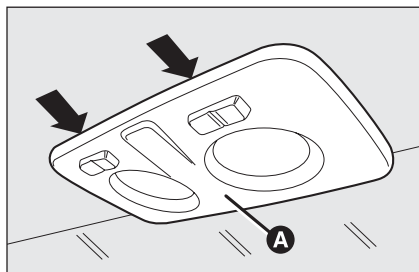
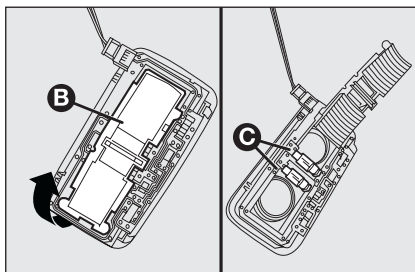

fig. 38
fig. 39
- ☐ work in the points shown by the arrows and remove light **A-fig. 38**;
- ☐ open the protection door **B-fig. 39**;
- ☐ close the door **B-fig. 39** and secure the ceiling light **A-fig. 38** in its housing locking it properly.